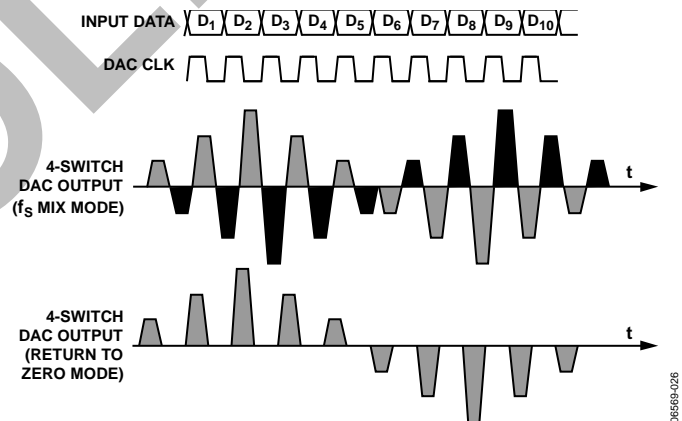

Figure 35. Mix Mode and RZ Mode DAC Waveforms
The quad-switch architecture also supports two additional modes of operation; mix mode and return-to-zero (RZ) mode. The waveforms of these two modes are shown in Figure 35. In mix mode, the output is inverted every other half clock cycle. This effectively chops the DAC output at the sample rate. This chopping has the effect of frequency shifting the sinc roll-off from dc to f_{DAC} . Additionally, there is a second subtle effect on the output spectrum. The shifted spectrum is shaped by a second sinc function with a first null at $2 \times f_{DAC}$. The reason for this shaping is that the data is not continuously varying at twice the clock rate, but is simply repeated.